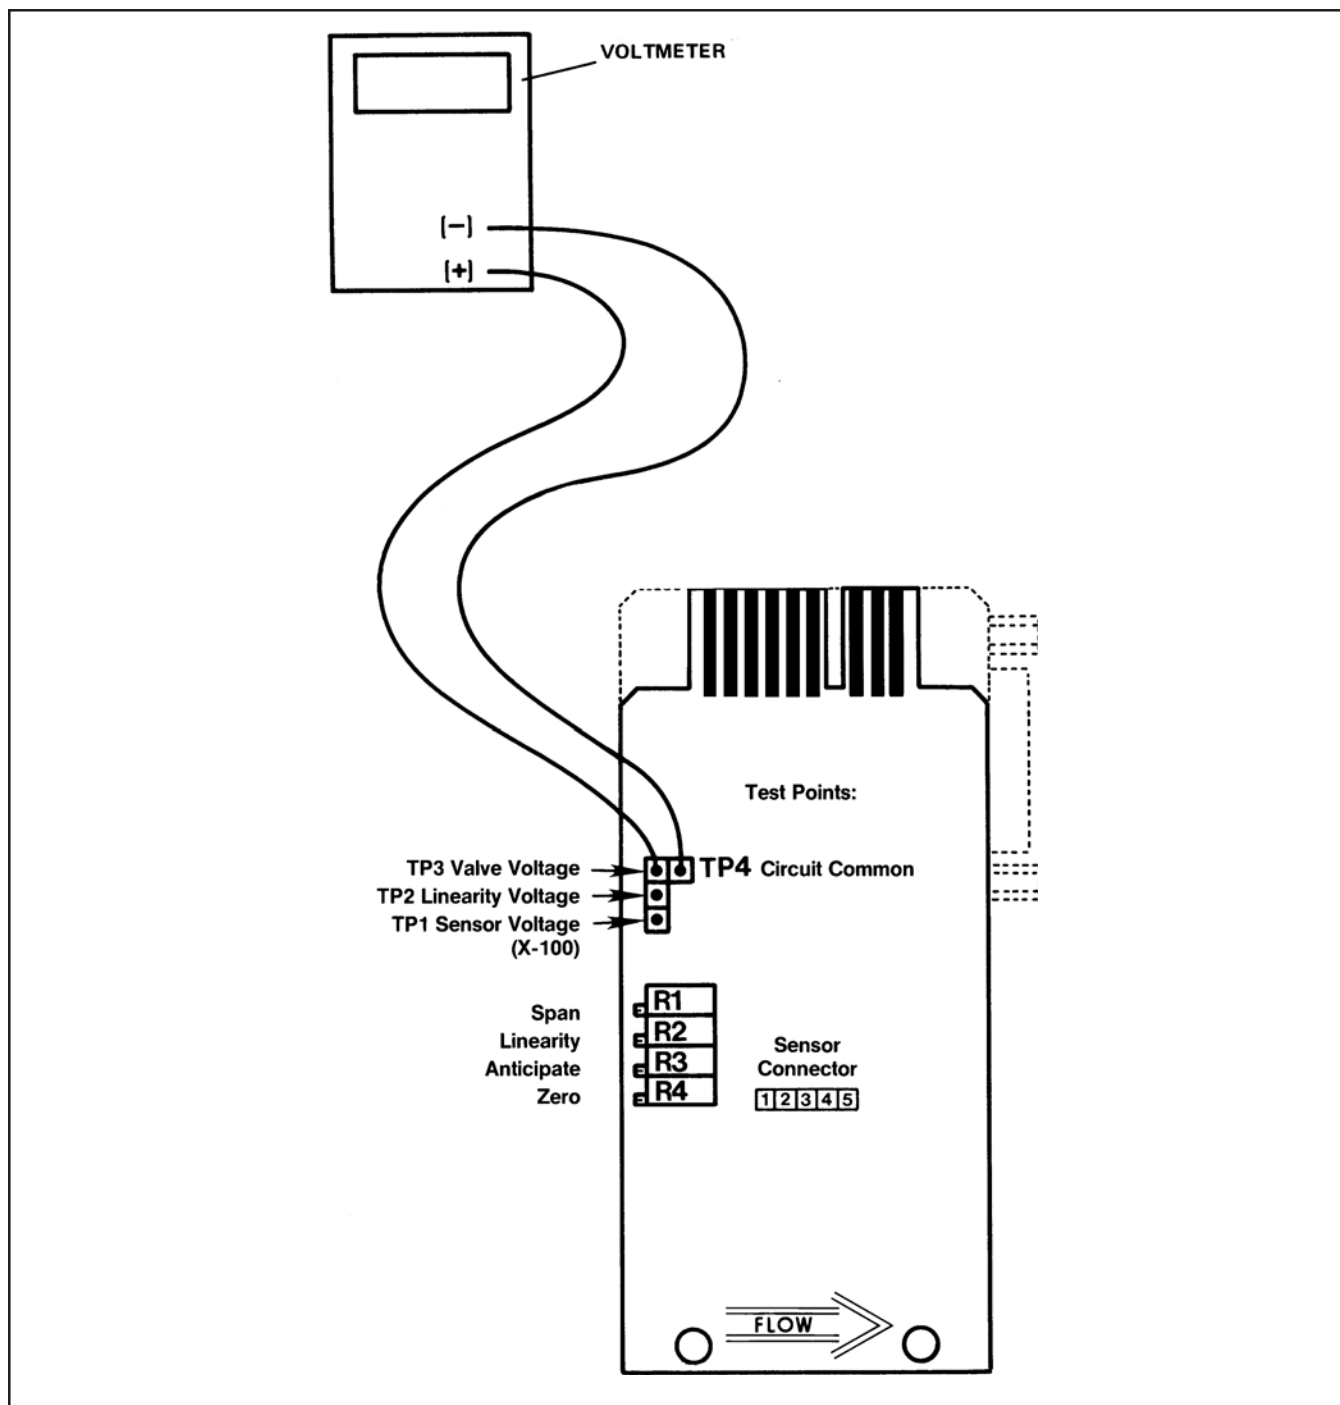

Figure 4-3 Voltmeter Connections for Valve Adjustment
- i. Measure the valve voltage by connecting a voltmeter between Test Point 3 (TP3) and Test Point 4 (TP4). Refer to Figure 4-3.